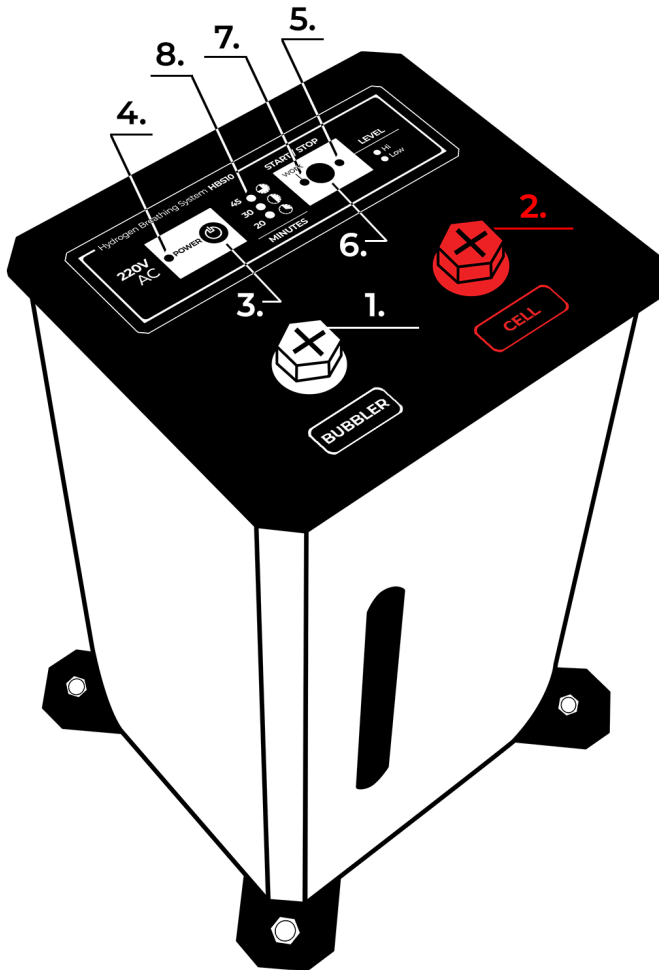

Fig. 1 Schematic of HBS10
A. ELECTROLYSER/CELL - located under the right red cap labeled "**CELL**" (Fig. 1, item #2). An electrolyzer is a device in which the electrolysis process takes place and as a result we get hydrogen. The electrolyzer is charged with an aqueous potassium-based solution.
Stir the solution until it becomes clear. The electrolyser/cell is charged by pouring the prepared electrolytic solution through the hole labeled "**CELL**"- the red cap (Fig. 1, item #2). Use a glass, plastic or stainless steel container to prepare the solution.
The level of electrolyte in the electrolyzer is controlled by an electronic level gauge. The indicator that shows what is the exact level is located next to the red **START/STOP button** - located in the white rectangle, opposite the inscription **LEVEL** (Fig. 1, item #5)
From the **POWER button** (white round button in a red rectangle - Fig. 1, item #3), we turn on the power to the device. A blue LED (indicating any of the three times) indicates that mains power has been applied.
The round red button with the words **START/STOP on top** (located in the white rectangle - Fig. 1, item #6) is the button to start the device. Pressing it starts the production of hydrogen. The blue indicator labeled **ON will light up on the panel** - it indicates that the electrolyzer is producing hydrogen. During operation, the **ON indicator** will change its brightness smoothly.